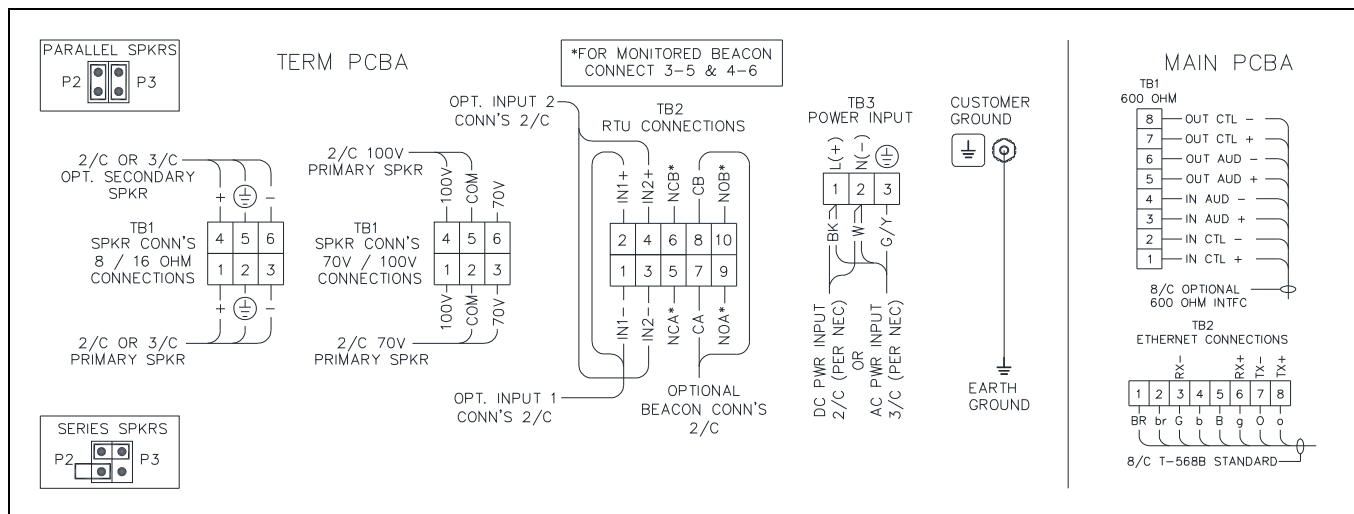

Figure 3. SP2 Termination and Main PCBA Connections
SP2 stations provide terminal blocks, on the termination PCBA, located in the rear enclosure, for field wiring the power, speaker, and RTU connections. The main PCBA, mounted to the back of the front panel, provides pluggable terminal blocks for the 600-ohm audio and Ethernet network connections (see Figure 3).
1. Terminate the direct speaker connection to terminal block TB1 on the termination PCBA (see Figure 3).
3. Connect 100-volt speakers between the 100V and COM terminals on terminal block TB1. Connect 70-volt speakers between the 70V and COM terminals on terminal block TB1 (see Figure 3).
5. Terminate the RTU inputs and output to terminal block TB2 on the termination PCBA (see Figure 3).
6. Terminate the ac or dc power input to terminal block TB3 on the termination PCBA (see Figure 3).
7. Terminate the 600-ohm audio connections to terminal block TB1 on the main PCBA (see Figure 3).
8. Terminate the Ethernet connection to terminal block TB2 on the main PCBA (see Figure 3).